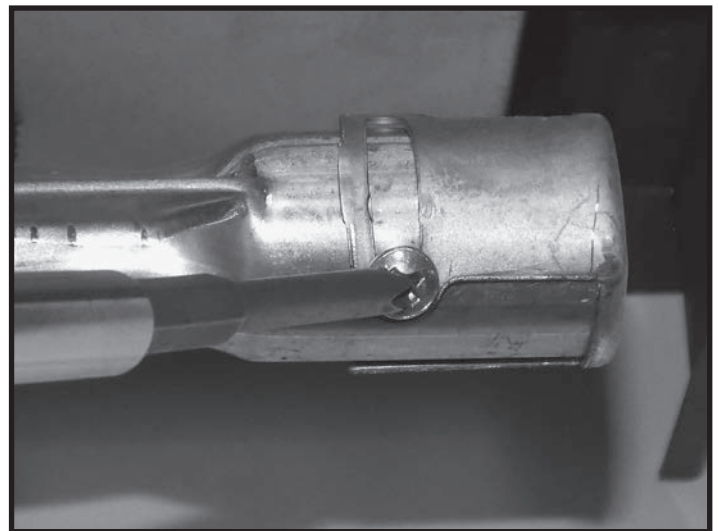
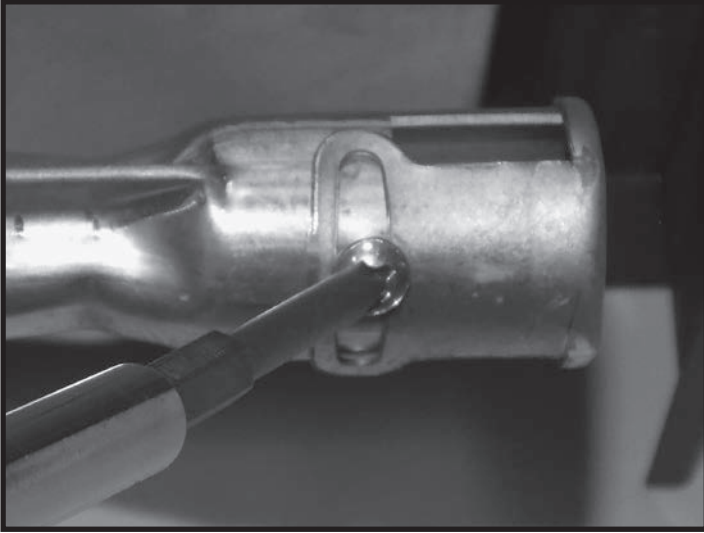

Figure 31: Air shutter fully closed for natural gas.
Figure 32: Air shutter half opened for propane gas.
9. Loosen the primary air shutter screw (Figure 31), open shutter half way and re-tighten (Figure 32).